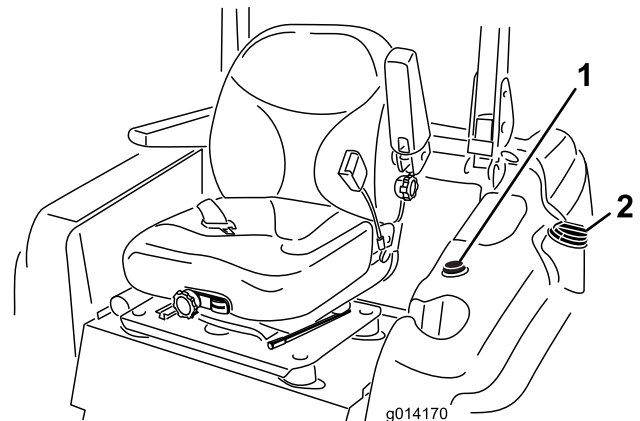

Figure 9
3. Clean around the fuel tank cap and remove the cap (Figure 9).